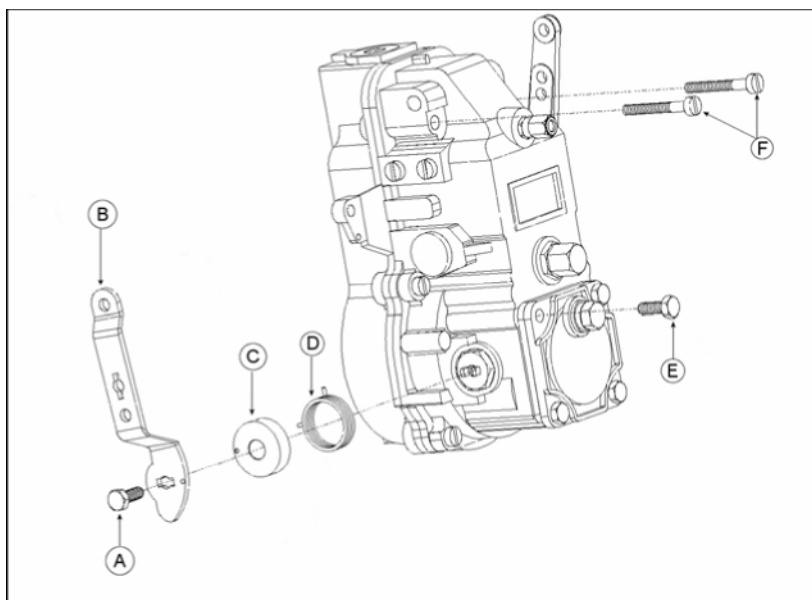

Figure 2. Removal of Old Hardware
Figure 2 shows the hardware to be removed before installing the shutdown kit.
1. Remove all parts labeled "A" through "F" in **Figure 2**.